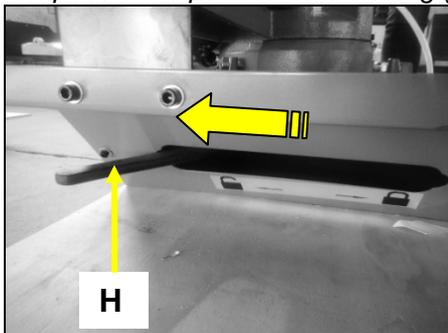
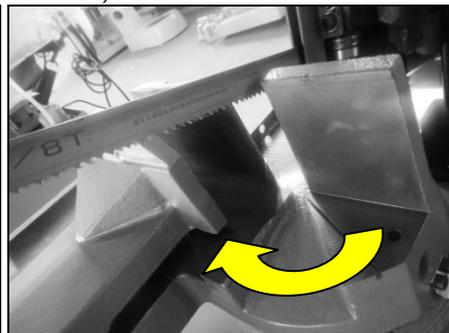

Fig 34
Fig 35
To perform this operation, simply loosen the vice lock lever positioned on the machine base (H Fig 34) and rotate the head to the angle required (Fig 35 & 36); finally tighten lock lever (H).